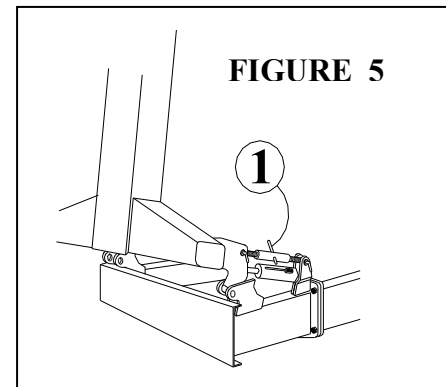
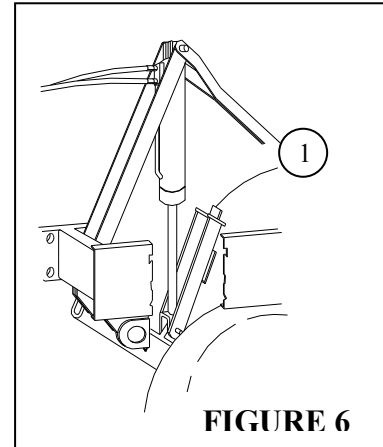

FIGURE 5
FIGURE 6
- Remove the lock with the threaded end (Fig. 5, Item 1) that holds the drill tongue during transport (if it is under strain, work on the hydraulic circuit for ease of operation).
- Engage the hydraulic circuit to lower the tongue. Secure on its base with the eight (8) corresponding fasteners.
- Release (move backwards) the locks in each of the cylinders (Fig. 6, Item 1) of the transport wheels. This was already done if you decided to match the drill tongue height with the transport wheels height. Activate hydraulic system and raise wheels completely.
- Remove the fasteners from the drill tongue, activate the hydraulic system and lift tongue. Put the threaded end of the tongue in place (Fig. 5, Item 4).